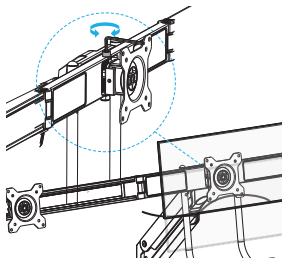

Figure 22
2. To adjust the **Height** of the **Center Monitor**, use the **6mm Hex Key** to **Tighten** or **Loosen** the **Screw** at the back of the **Center VESA Monitor Mount**. (Figure 22)